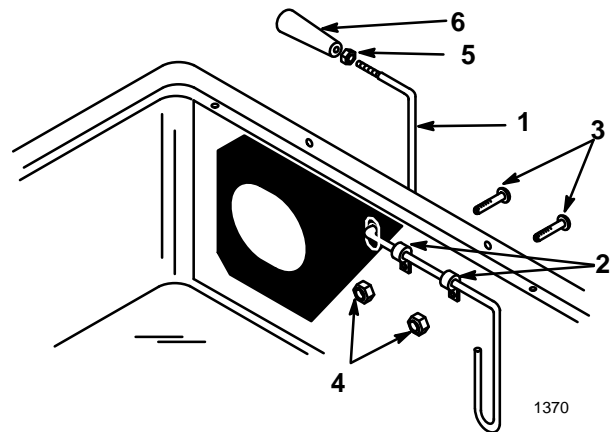

Figure 11
1. Slide the threaded end of indicator rod through (2) clips, then the rubber seal and slot in the cover (Fig. 11).
2. Secure the clips to the cover with (2) 1/4 x 5/8" (16 mm) pan head screws and 1/4" lock nuts (Fig. 11).
3. Thread the jam nut and handle completely onto the threaded end of the indicator rod. Rotate the handle so that the decal can be read from the operators position, then tighten the jam nut (Fig. 11).